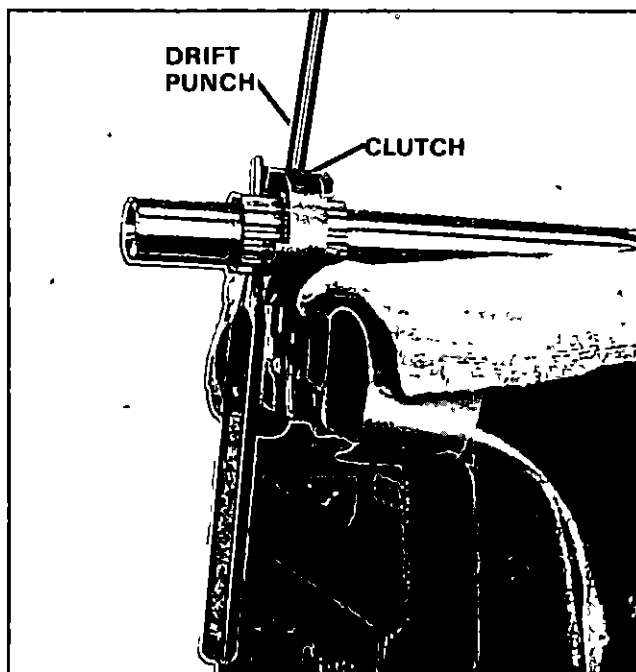

Figure 26. Removing Clutch.
This procedure prevents damage to ends of clutch slots when removing spring pin from clutch Figure 26
- D Drive spring pin from clutch using pin remover Special Tool No T 8919 Figure 26